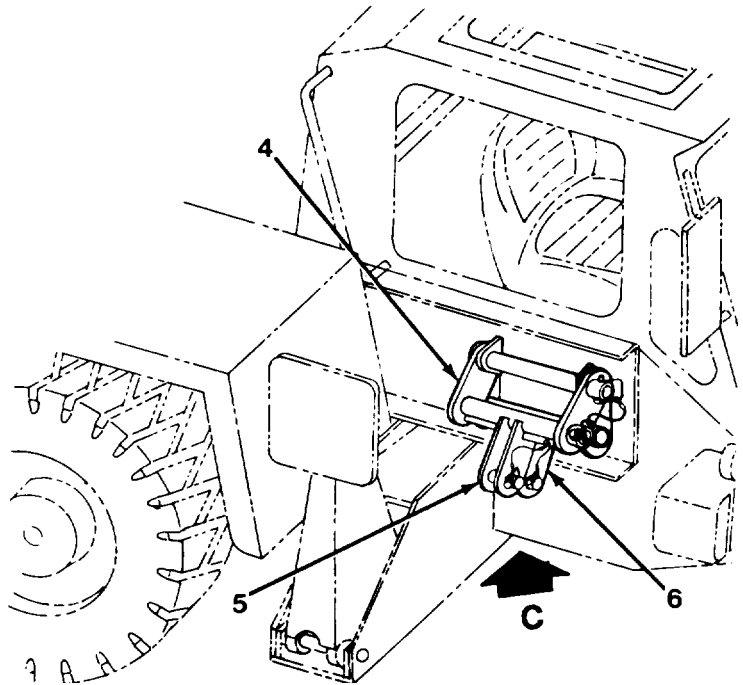

Figure 5-7. *Storage Location C*
- d. Stow toggle sheave brackets (5) with attaching links (4) in storage location C, on bracket on right-hand front of earner (Figure 5-7). Secure with pins (6) connected to the attaching links (4).